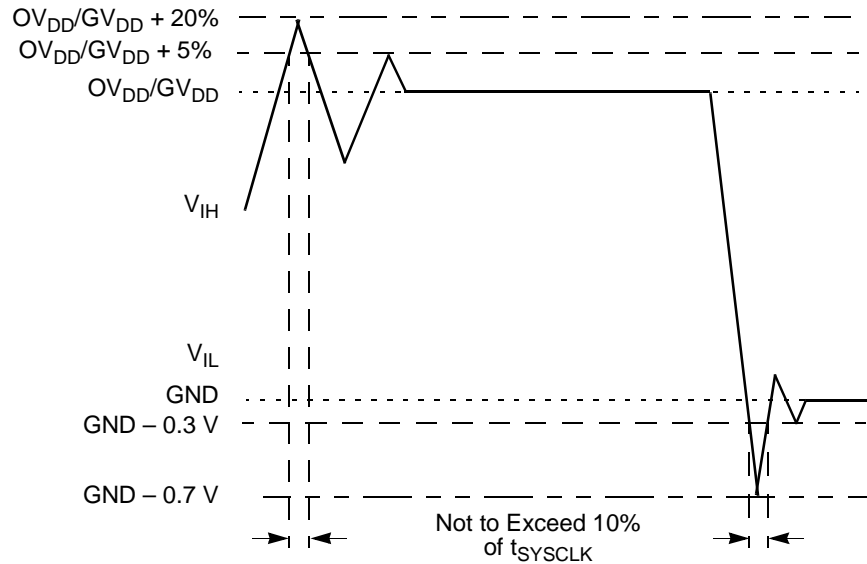

Figure 2. Overshoot/Undershoot Voltage
5.  $V_{in}$  may overshoot/undershoot to a voltage and for a maximum duration as shown in Figure 2.
Figure 2 shows the overshoot and undershoot voltage on the MPC7451.